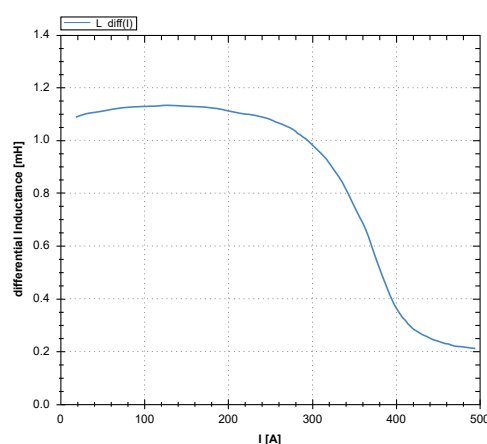

Figure 2: Diagram of the differential inductance $L_{diff}(i)$ of a filter reactor
- Differential inductance $L_{diff}(i)$ (Figure 2) and $L_{diff}(JUdt)$